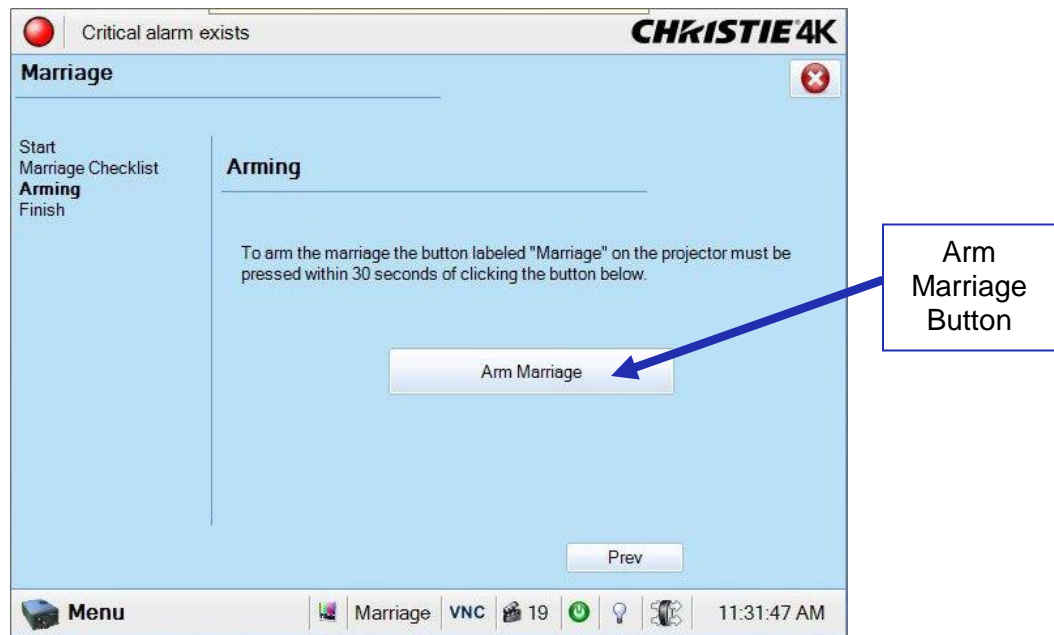
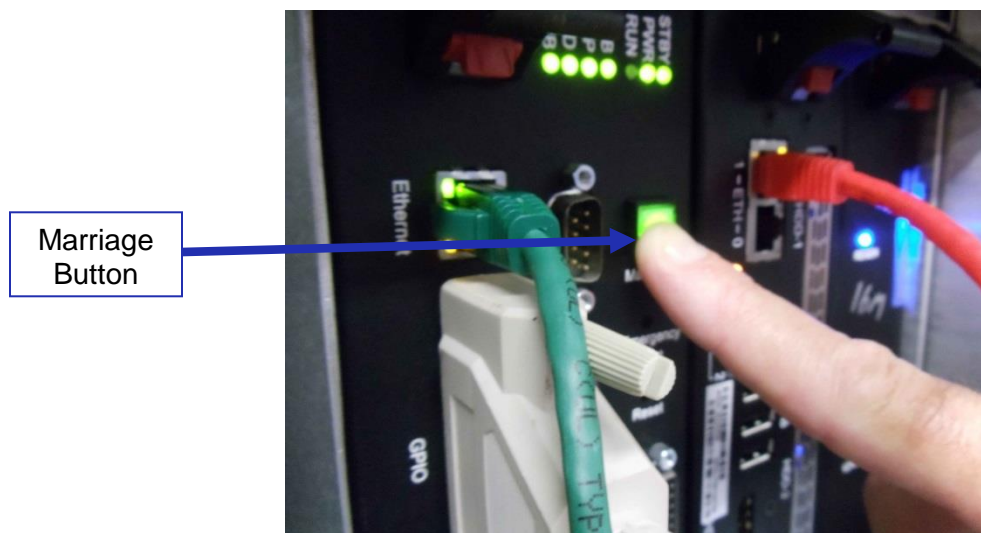

Figure 90: Arm Marriage Window
Figure 91: Marriage Button on Projector
- The Arm Marriage window will appear. When the Arm Marriage button is pressed, the user has 30 seconds to press the Marriage button on the projector, which should now be green (Figure 90 and Figure 91).